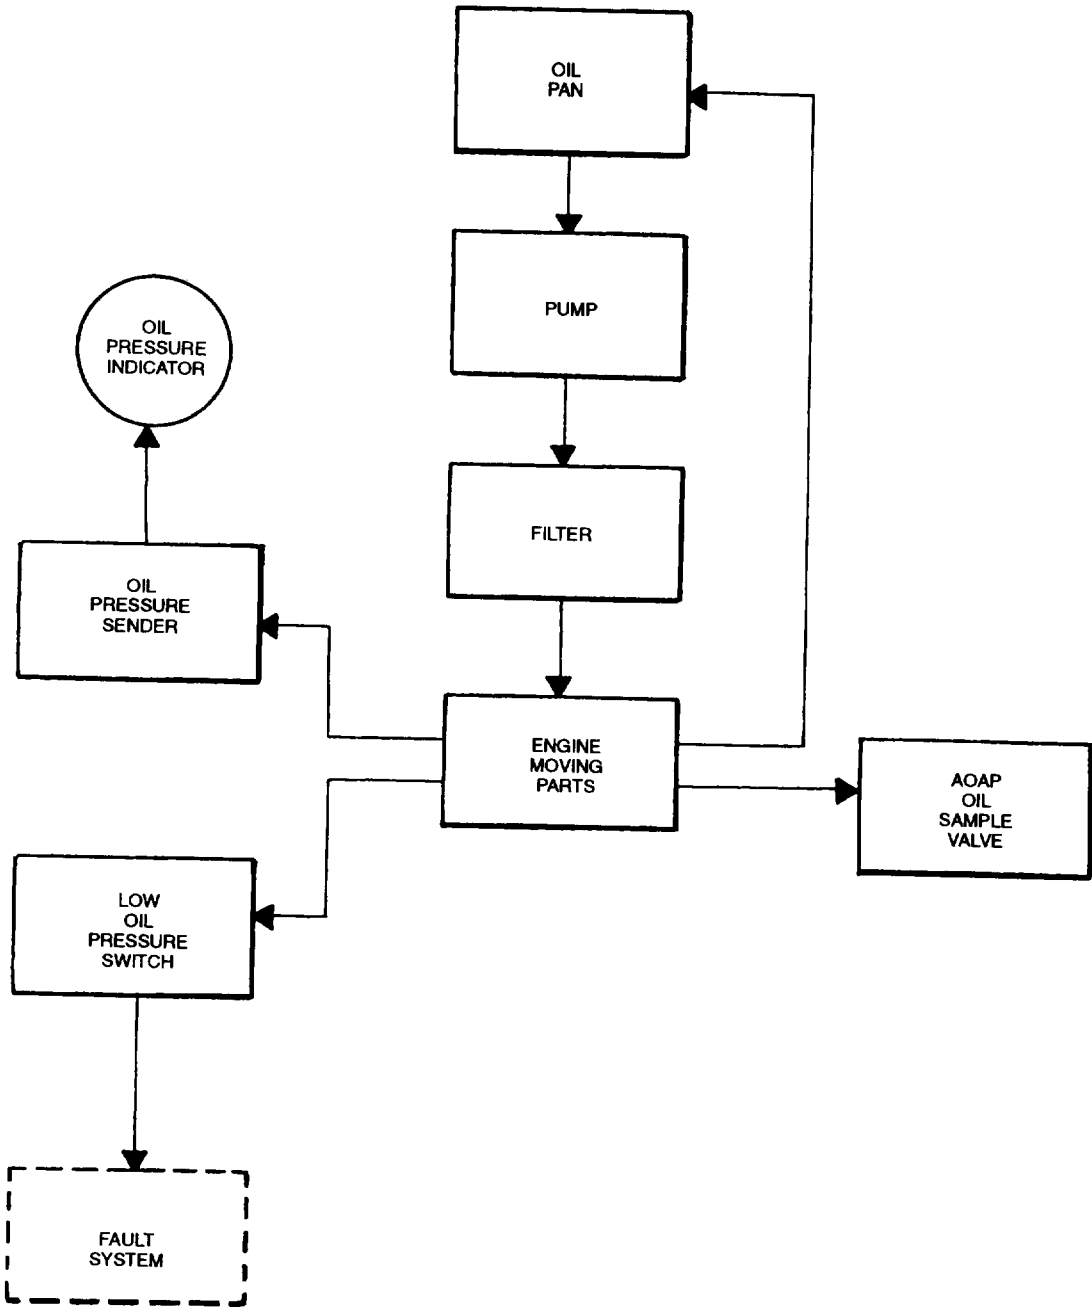

FIGURE 1-6. Engine Lubrication System
1.12.5.1 The Engine Lubrication System (FIGURE 1-6) consists of an oil pan, dipstick, pump, oil sample valve, oil pressure sender, OIL PRESSURE indicator, low oil pressure switch, and filter.